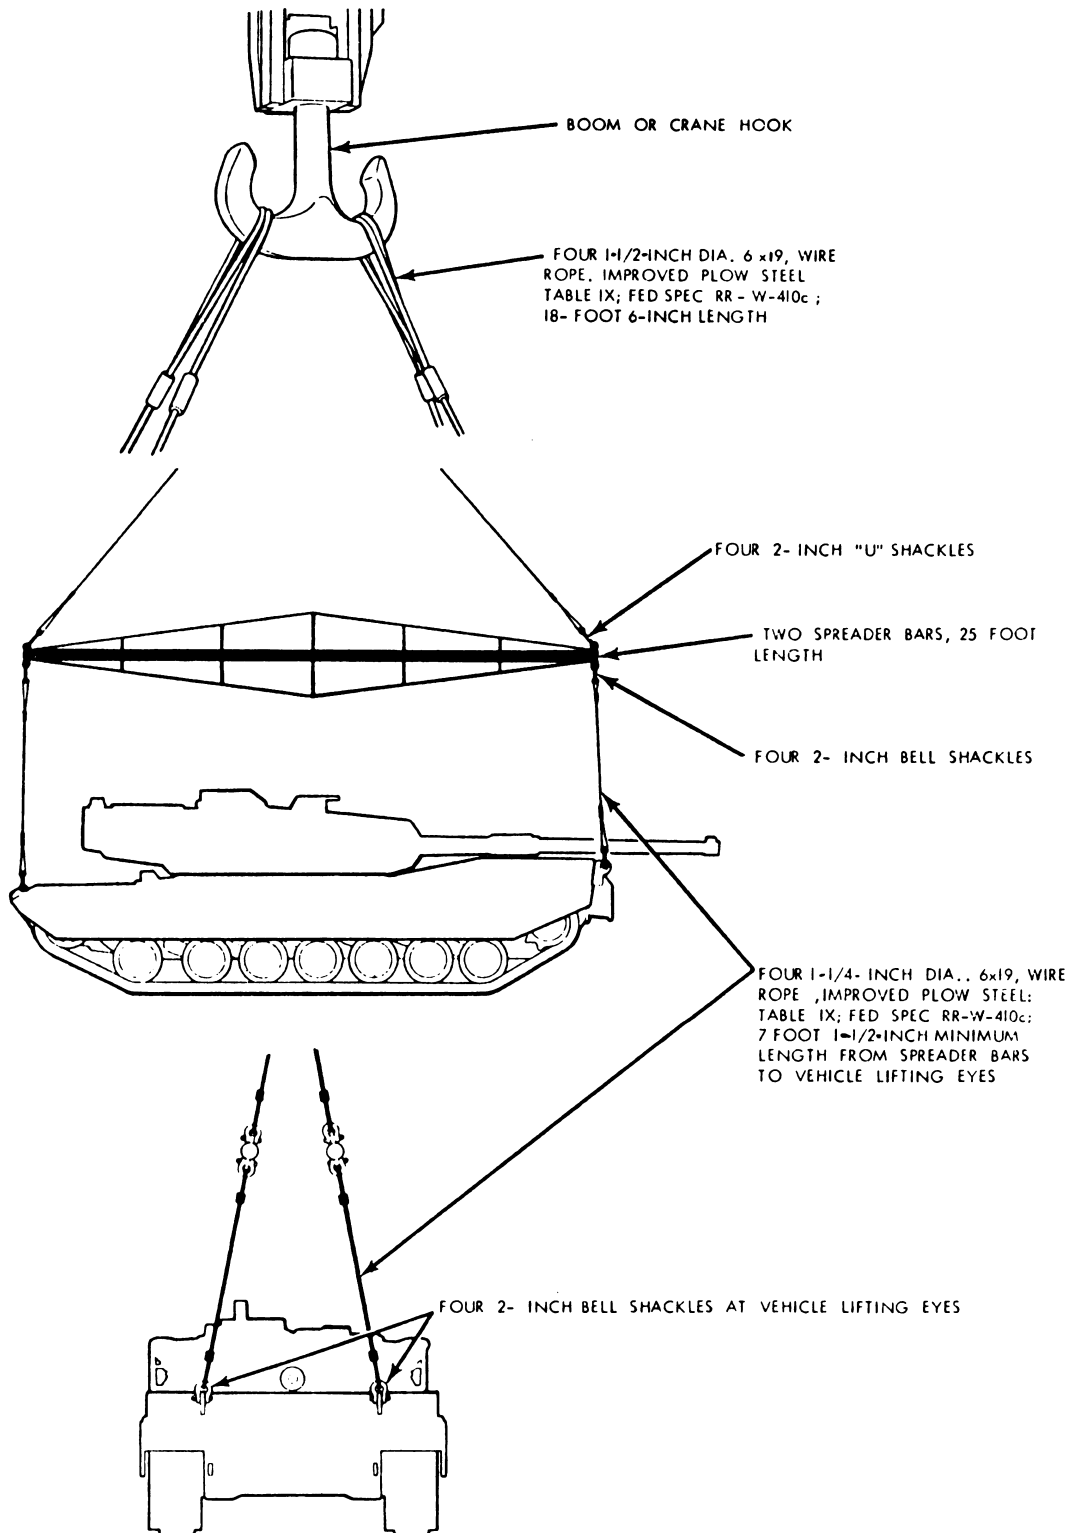

Figure 6-1. Lifting diagram for M1-series tank, using wire-rope and spreader-bar sling.
b. *Loading.* Vehicles are always loaded onto vessels in their minimum configuration; that is, reduced height, with or without cargo. The vehicle can be driven or lifted by crane of adequate capacity onto landing craft, beach discharge and amphibious lighters, and landing ship tanks. It can also be driven onto the decks of barges from a pier when tidal conditions are suitable and ramps are available. The vehicle can be lifted by shoreside or floating cranes of adequate capacity onto seagoing vessels. Jumbo booms and heavy-lift ship's gear may be used in loading vehicles onto vessels. The vehicle can be driven or towed onto roll-on/roll-off vessels. A typical lifting diagram for the M1-series tanks is shown in figure 6-1. Typical blocking and tiedown details are shown in figure 6-2. Materials and their application are listed in tables 6-1 and 6-2.